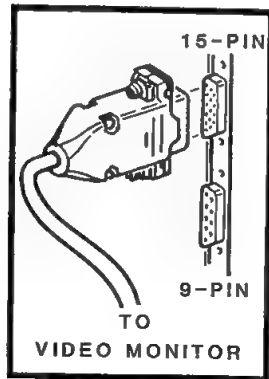

Figure 2-3. Connecting the Video Monitor
2. Refer to Figure 2-3 and connect the video cable to the appropriate video connector on the back panel of the computer. Use the 15-pin video connector for a high-resolution analog video monitor. Use the 9-pin connector for a multisync, EGA, CGA, or monochrome video monitor. Secure the connection by tightening the screws on the connector.